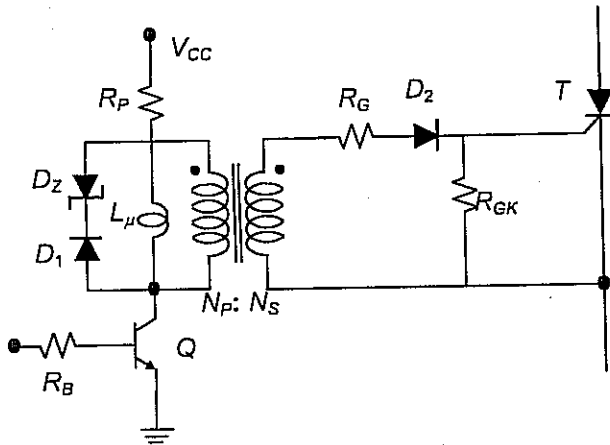

Fig. 1: Drive Circuit of a Thyristor
2. A high-power application magnet is supplied via a three-phase bridge converter from a 380 V, 50Hz source. The current in each thyristor may reach an rms value of 25 A. The drive circuit of a typical thyristor in the three-phase set up is as shown in Fig. 1. The data sheet of the thyristor being used (i.e. 2N6504 series) is attached. The supply voltage $V_{CC}=12V$. In carrying out the design select standard resistance values attached. Provide brief explanations for various choices that you make in your design.
- a) Explain the general operation of the drive circuit of Fig. 1. Also explain the the functions of the various components R_G , R_{GK} , diode D_2 , the transformer, the resistance R_p , the diode D_1 and the zener diode D_z .